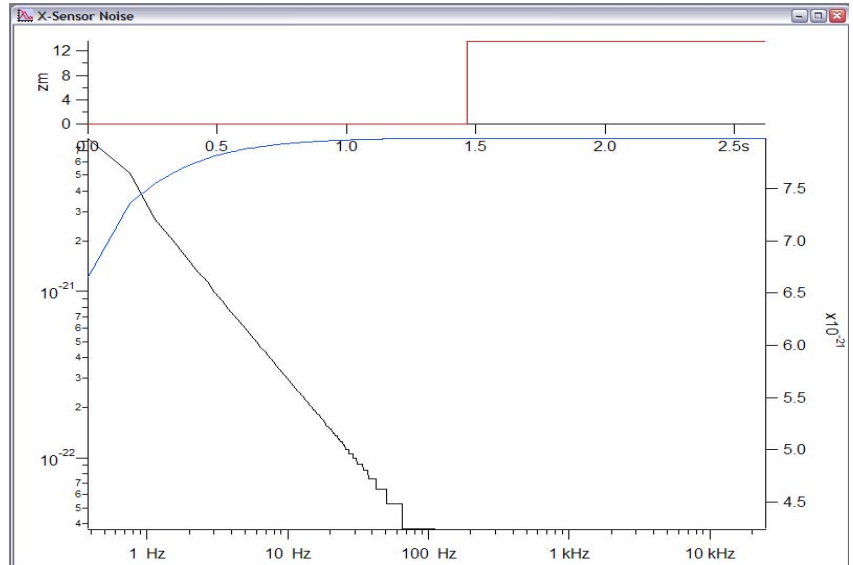

Figure 16.1.4: Improperly functioning LVDT sensor noise plot.
- An example of a poor sensor signal is in Figure 16.1.4. In this particular example, the X scanner was rubbing at the end of fully retracted part of the scan- *a representative scanner hysteresis plot can be seen in Figure 16.3.3.*
- Also notice the length scale in Figure 16.1.4: it's in *zm* (i.e., $\times 10^{21}$) doesn't make sense because that's way too small, so there must be something not correct with the system. In this particular example, since it was constrained at the fully retracted end, adjusting the piezo range to +10 V to +150V gave a healthy noise spectrum similar to Figure 16.1.3. With some mechanical adjustment and help from AR support, the piezo was moved back into proper position.